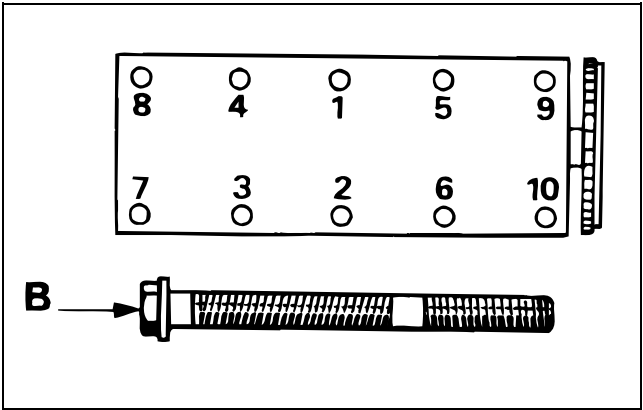

Figure 84
2. Pre-tighten the bolts in the order shown (Fig. 84) to a torque of 30 Nm (22 ft-lb).